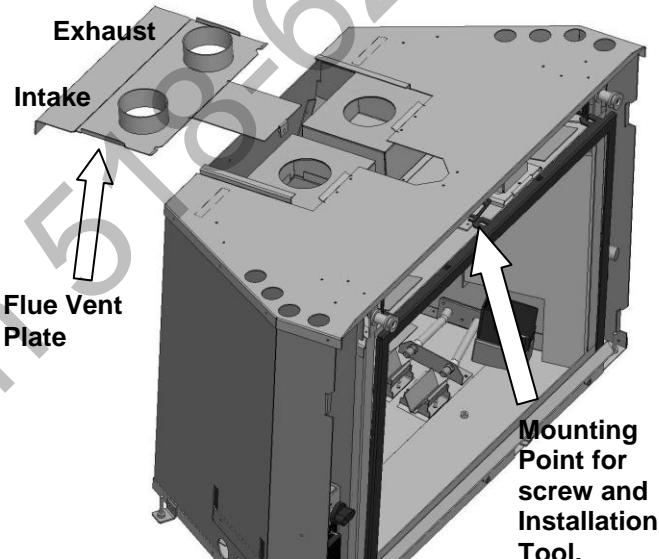

Figure 19
3. Using a Phillips head screwdriver, remove the screw holding the front of the Flue Vent Plate to the firebox. Push the plate carefully back and out of the retaining tracks – take it off the stove as shown (see Figure 19). Keep this screw, as you will need it later to remount the plate.